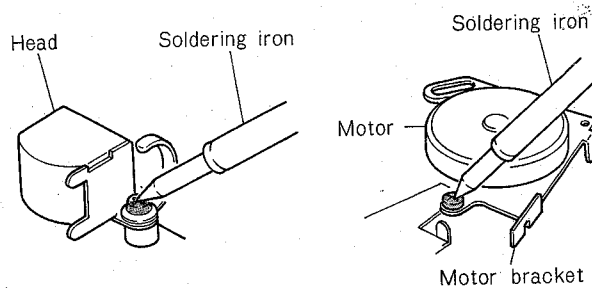

Fig. 6
- If giving the mounting screws an excessive force by a screwdriver without loosening the seal, screw slots will not only be damaged but loose mounting posts will be occurred. (See Figure 6)